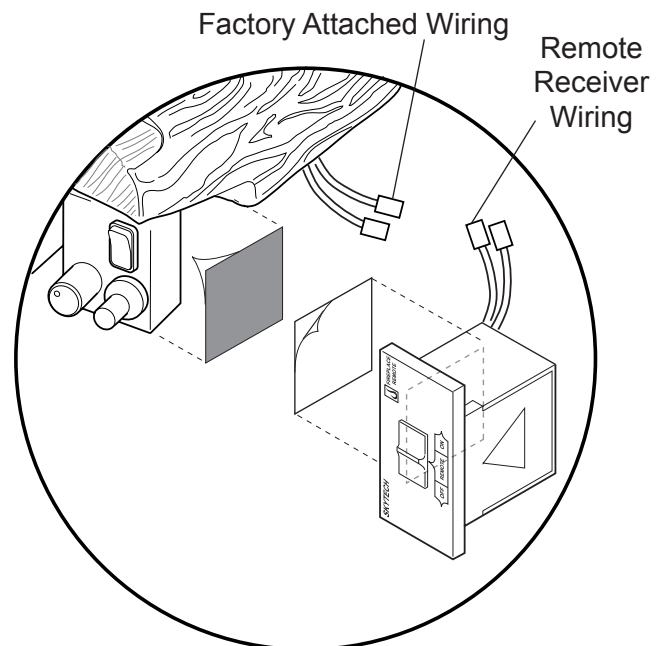

Figure 29 - Placement of Remote Receiver on VDY Log Set
3. Attach second Velcro pad to control bracket with self adhesive backing. (See Figure 29).